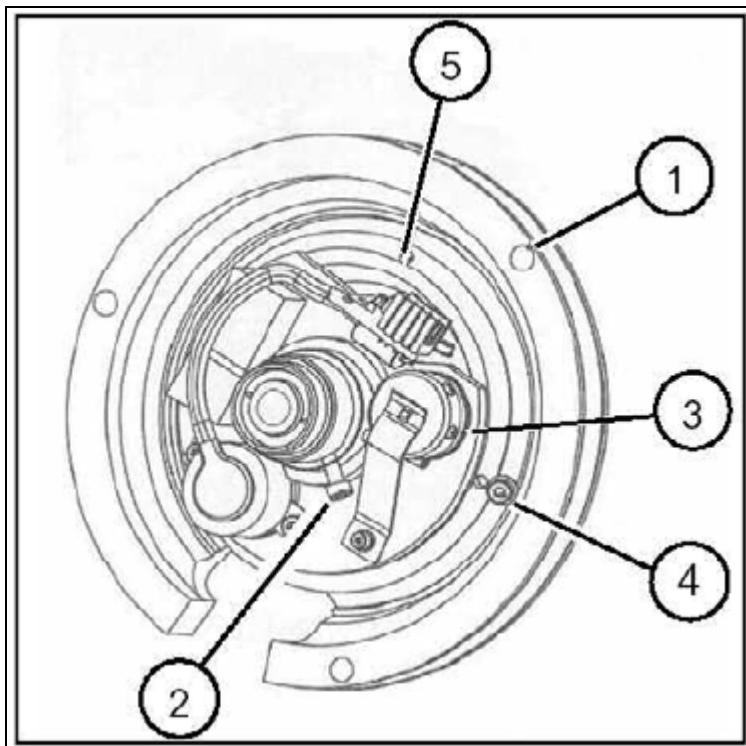

Fig. 14: Replacing the camera and the I. I. optics\_2
1. Loosen the clamping screw (4/Fig. 14 / p. 48).
2. Loosen the lock ring (5/Fig. 14 / p. 48).
7. Retighten the clamping screw (4/Fig. 14 / p. 48).
1. Loosen the focus ring clamping screw (2/Fig. 14 / p. 48).
2. You can adjust the optimum sharpness by turning the focus ring (3/Fig. 14 / p. 48).
4. Retighten the focus clamping screw (2/Fig. 14 / p. 48).